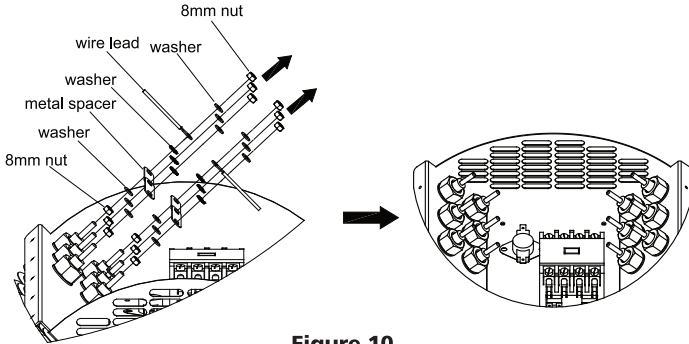

Figure 10
1. Take a picture of the wiring prior to repairing for future reference. Remove the 8mm nuts and washers and then remove the metal spacer from the heating element assembly. Disconnect the wire leads from the damaged heating element(s) and retain all hardware for replacing the damaged element. (See Figure 10).